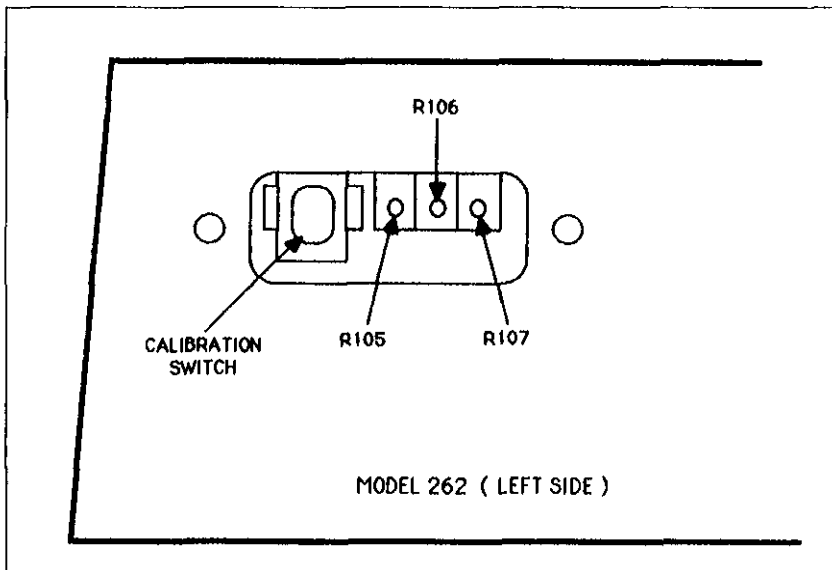

Figure 8. Calibration Adjustments
26. Adjust Calibration Pot R105 (See Figure 8) to obtain a null on the Model 181 (2mV range) within the adjustment limit for R105 specified in Table 6. Record the actual reading obtained.
3. Adjust only R106 in Step 26 of Pot Adjustment. See Figure 8 for location. Be sure to use Table 6 to determine appropriate limits.
4. Adjust only R107 in step 26 of Pot Adjustment. See Figure 8 for location. Be sure to use Table 6 to determine appropriate limits.
*See Figure 8